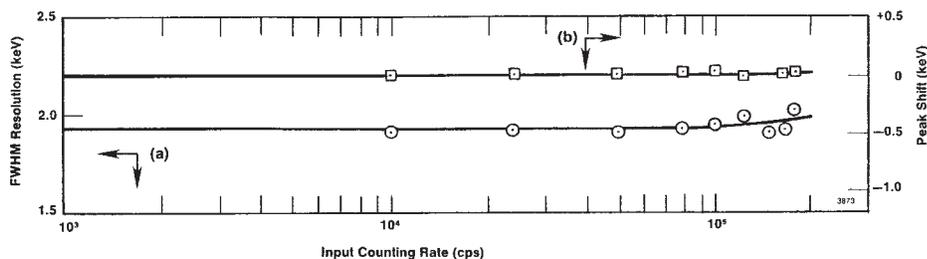

Fig. 2. (a) Resolution and (b) Peak Position Stability as a Function of Counting Rate. See specifications for spectrum broadening and spectrum shift.
To minimize spectrum distortion at medium and high counting rates (Fig. 2), the unipolar output incorporates a high-performance, gated, baseline restorer with several levels of automation. Automatic positive and negative noise discriminators ensure that the baseline restorer operates only on the true baseline between pulses in spite of changes in the noise level. No operator adjustment of the baseline restorer is needed when changes are made in the gain, the shaping time constant, or the detector characteristics. Negative overload recovery from the reset pulses generated by transistor-reset preamplifiers and pulsed optical feedback preamplifiers is also handled automatically. A monitor circuit gates off the baseline restorer and provides a reject signal for a multichannel analyzer until the baseline has safely recovered from the overload.
**SPECTRUM BROADENING† (Fig. 2)** Typically  $< 8\%$  broadening of the FWHM for counting rates up to 100,000 counts/s, and  $< 15\%$  broadening for counting rates up to 200,000 counts/s. Measured on the 1.33-MeV gamma-ray line from a 60Co radioactive source under the following conditions: 10% efficiency ORTEC GAMMA-X PLUS detector, 8.5-V amplitude for the 1.33-MeV gamma ray on the unipolar output.
**SPECTRUM SHIFT† (Fig. 2)** Peak position typically shifts  $\leq \pm 0.018\%$  for counting rates up to 100,000 counts/s, and  $\leq \pm 0.05\%$  for counting rates up to 200,000 counts/s. Measured on the 1.33-MeV line under conditions specified for SPECTRUM BROADENING.